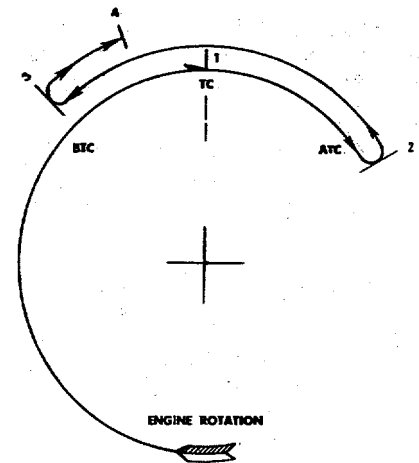

Fig. 14-32 (V31435). Injection Timing Procedure Diagram.
4. Rotate the crankshaft in the direction of engine rotation to the Top Dead Center (TDC) position of the compression stroke for the No. 1 cylinder, (1) Fig. 14-32. Loosen the thumbscrew for the piston travel gauge. Move the gauge so that the stem of the gauge is in the center of the piston plunger rod. Lower the gauge against the piston plunger rod until the stem is fully compressed, then raise the gauge approximately 0.025 inch. Tighten the thumbscrew to hold the gauge in position. Rotate the crankshaft 2 or 3 degrees clockwise and counterclockwise to make sure the piston is at TDC. Loosen the setscrew for the gauge dial and turn the dial so that the indicator is at zero. Tighten the setscrew.
- (1) Check the engine dataplate to find Timing Code.
- (2) Measure the push rod travel when the piston is at 0.2032 inch Before Top Dead Center.
- (3) Timing Code for Mechanical Variable Timing (MVT).
5. Rotate the crankshaft in the direction of engine rotation to 90 degrees After Top Dead Center (ATDC), (2) Fig. 14-32. Loosen the thumbscrew for the push rod travel gauge. Move the gauge so that the stem of the gauge is in the center of the push rod adapter. Lower the gauge against the adapter until the stem is fully compressed. Then raise the gauge approximately 0.025 inch. Tighten the thumbscrew to hold the gauge in position. Loosen the setscrew for the gauge dial. Turn the dial so that the indicator is at zero. Tighten the setscrew.
- c. Continue to rotate the crankshaft past TDC until the indicator shows 0.225 inch (two and one-fourth revolutions of the indicator needle past TDC, (3) Fig. 14-32). This step is necessary to take up the gear lash in the engine.
7. Rotate the crankshaft in the direction of engine rotation until the piston travel gauge is at 0.2032 inch BTDC (4) Fig. 14-32.